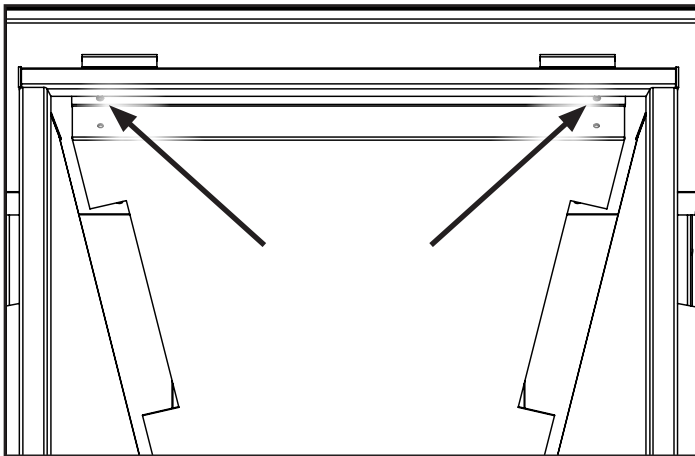

Figure 63. Baffle Screws.
2. Remove the firebox baffle by unscrewing the two screws indicated in Figure 63 using a T20 screwdriver. Lower the front of the baffle down and then lift it out of the two locating screws at the rear of the firebox.